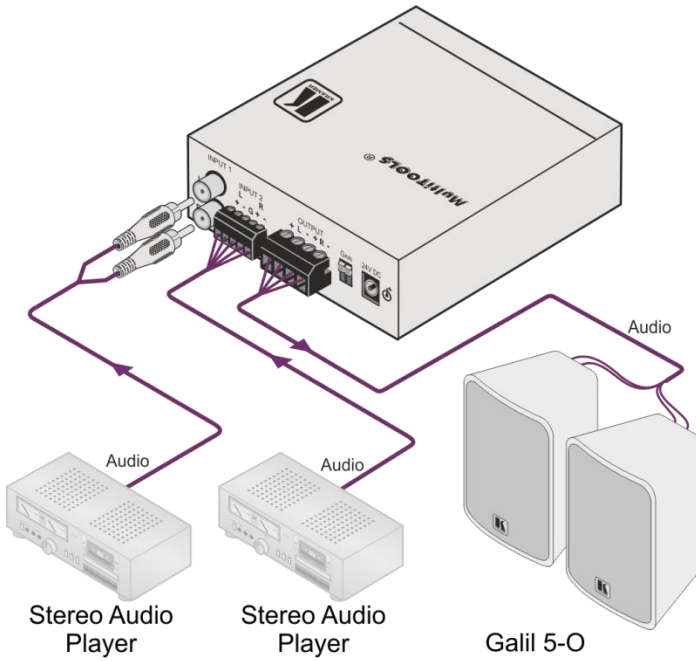

Figure 7: Installing the Galil 5-O
6. Repeat step 5 for the other speaker (see Figure 7).
You can connect the **Galil 5-O** speakers to an amplifier, for example the Kramer **907xl** Power Amplifier/Mixer, as illustrated in Figure 7: